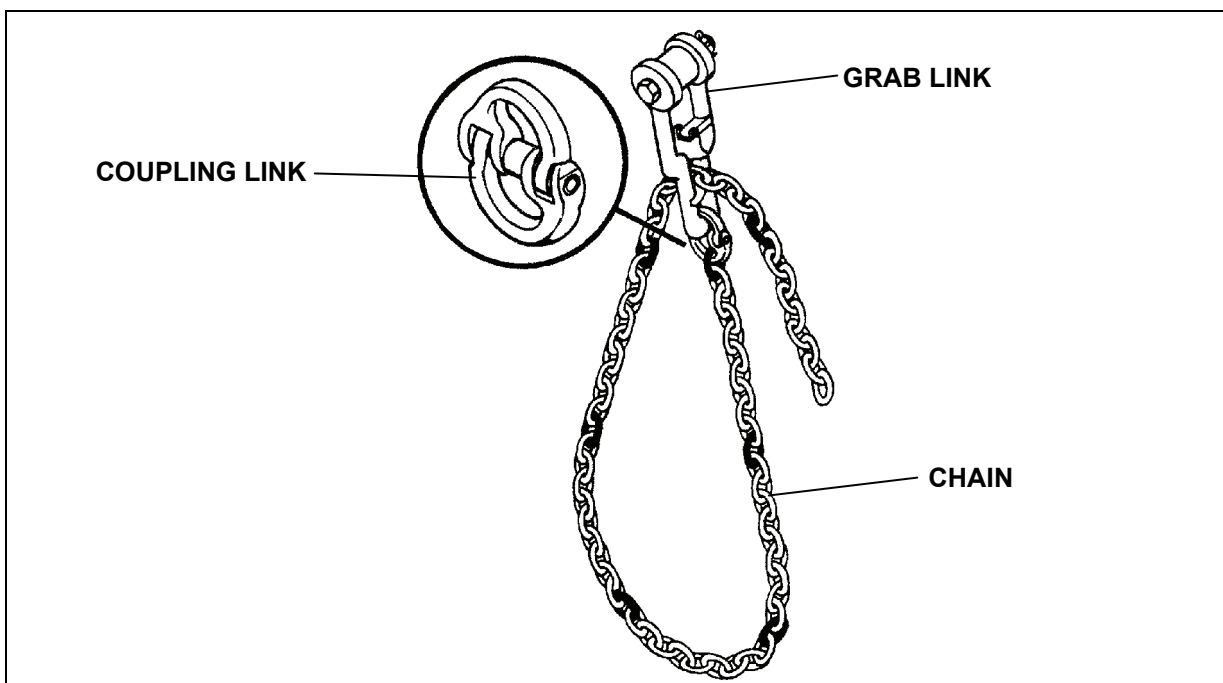

Figure 6-34. Chain Assembly
- Chain Assembly.** The 8-foot chain assembly has 70 links. Starting from the free end, every tenth link is painted olive drab to help in counting links. If additional lengths of chain are necessary, they can be joined to the existing chain leg using a coupling link. The chain link identified in the rigging procedures is inserted in the slot of the grab link (Figure 6-34).